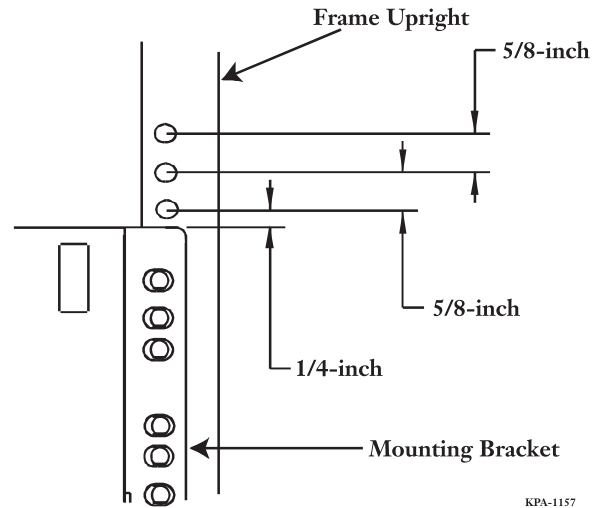

Figure 7
7.5 If you are using an EIA-310-D compliant equipment rack, make sure you align the mounting holes of the CSH so that the next hole above or below is $\frac{1}{4}$ inch away from the top or bottom surface of the housing (Figure 7). This will prevent misalignment of the lower mounting holes.